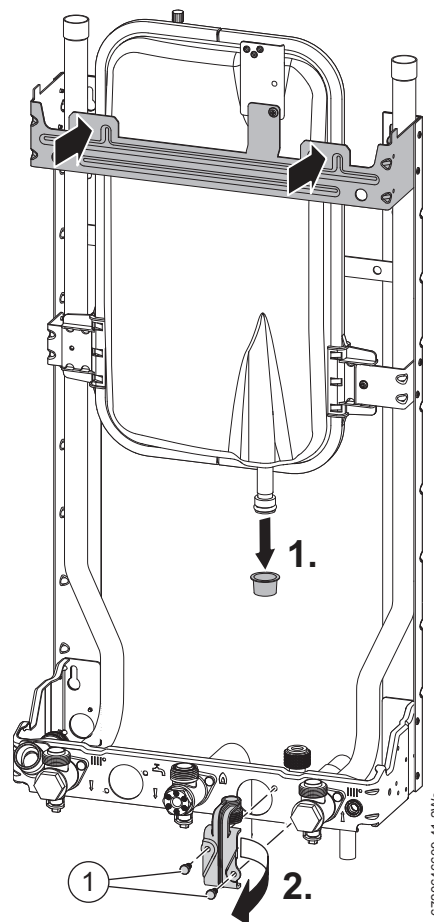

Fig. 32 Mounting points
- ▶ The boiler is mounted on the wall frame utilising the two mounting points, refer to figure 32, left and right at the top of the wall frame.